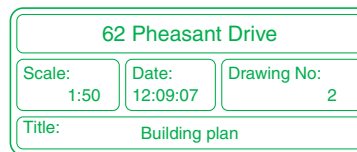

Fig. 11.1 The title block from drawing number 2 of the sheet set drawings
1. Construct a template **62 Pheasant Drive.dwt** based upon the **acadiso.dwt** template, but including a border and a title block. Save the template in a **Layout1** format. An example of the title block from one of the drawings constructed in this template is shown in Fig. 11.1.